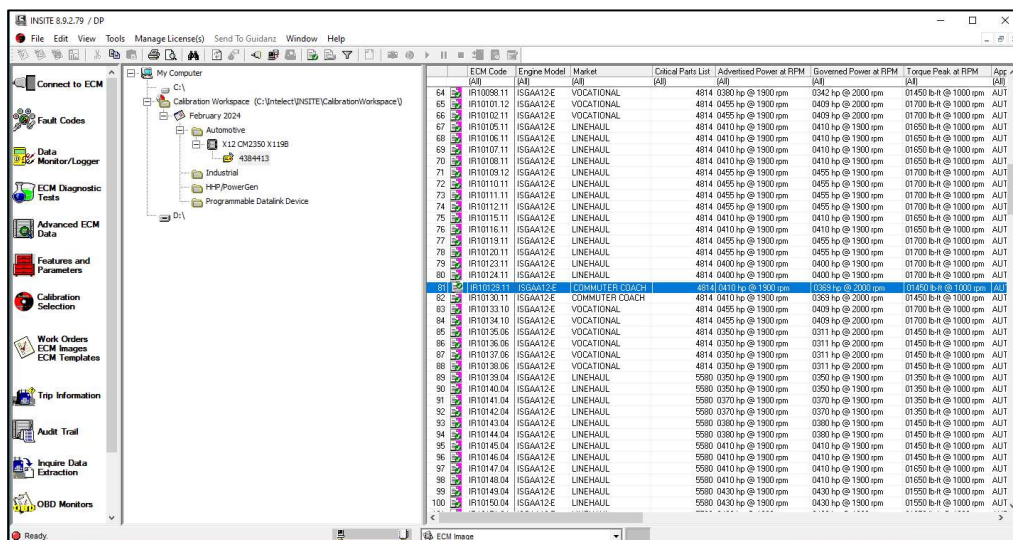

Figure 26
35. Scroll to the ECM code for your engine. A small hard drive symbol will show under the green check mark. See figure 26. Double click your ECM code and the ECM Download Calibration Wizard will launch.